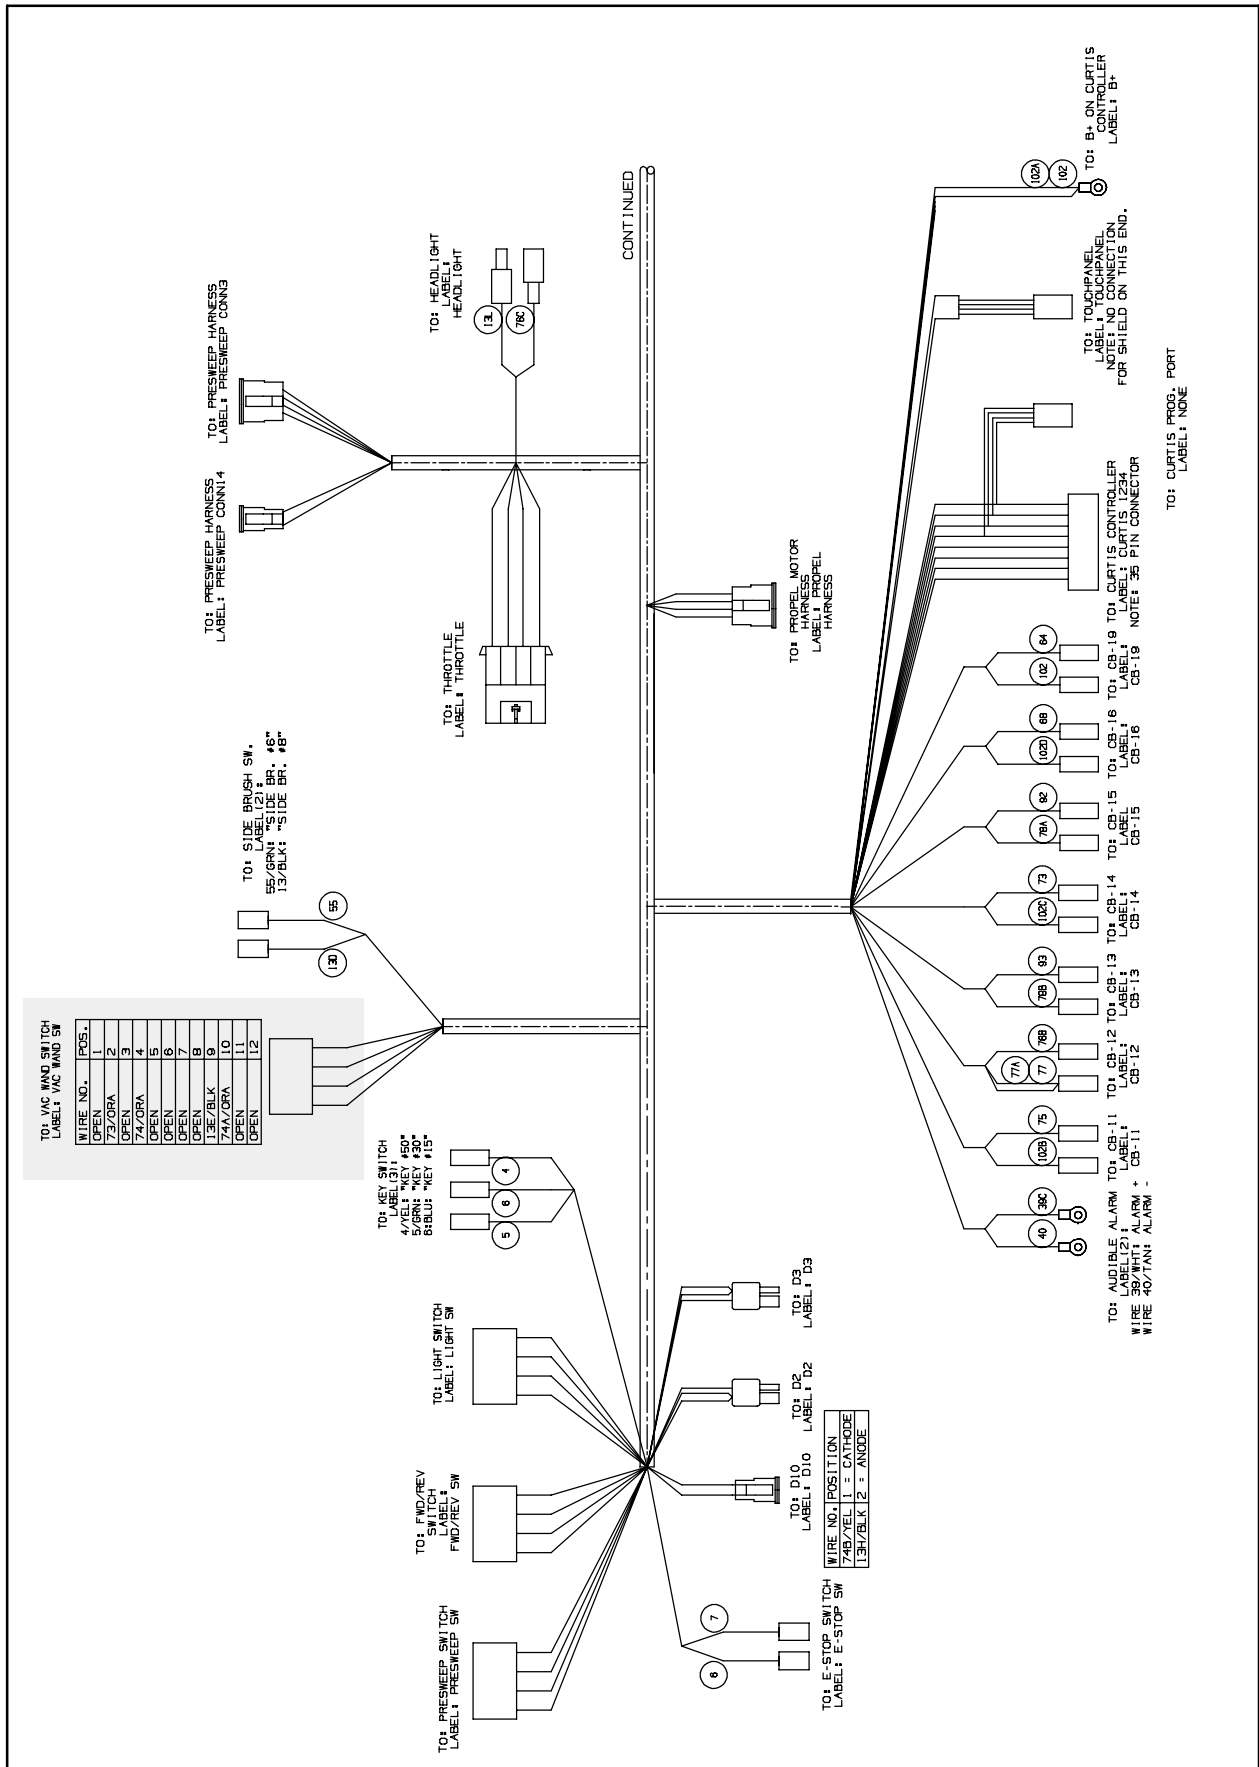

FIG. 5
- 19. Connect the main wire harness to the rocker switch (33). Refer to Fig. 5.